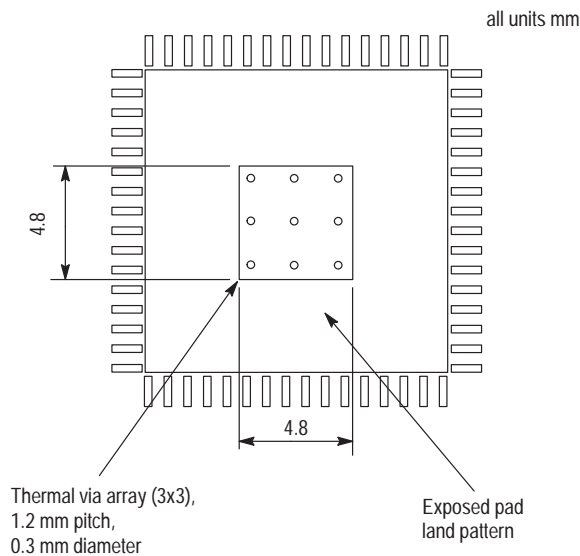

Figure 7. Recommended thermal land pattern
The MC100ES6222 uses a thermally enhanced exposed pad (EP) 52 lead LQFP package. The package is molded so that the leadframe is exposed at the surface of the package bottom side. The exposed metal pad will provide the low thermal impedance that supports the power consumption of the MC100ES6222 high-speed bipolar integrated circuit and eases the power management task for the system design. A thermal land pattern on the printed circuit board and thermal vias are recommended in order to take advantage of the enhanced thermal capabilities of the MC100ES6222. Direct soldering of the exposed pad to the thermal land will provide an efficient thermal path. In multilayer board designs, thermal vias thermally connect the exposed pad to internal copper planes. Number of vias, spacing, via diameters and land pattern design depend on the application and the amount of heat to be removed from the package. A nine thermal via array, arranged in a 3 x 3 array and using a 1.2 mm pitch in the center of the thermal land is a requirement for MC100ES6222 applications on multi-layer boards. The recommended thermal land design comprises a 3 x 3 thermal via array as shown in Figure 7. "Recommended thermal land pattern", providing an efficient heat removal path.